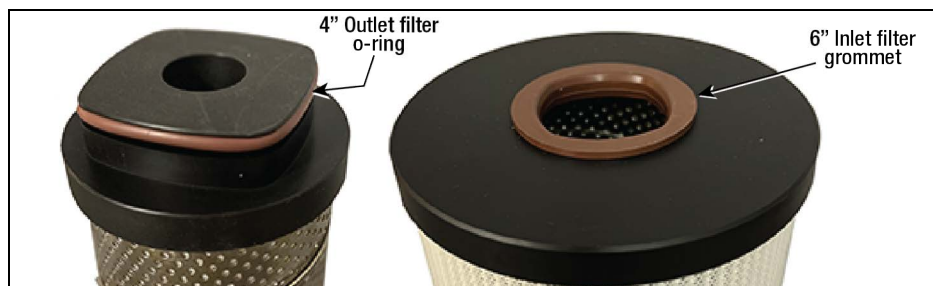
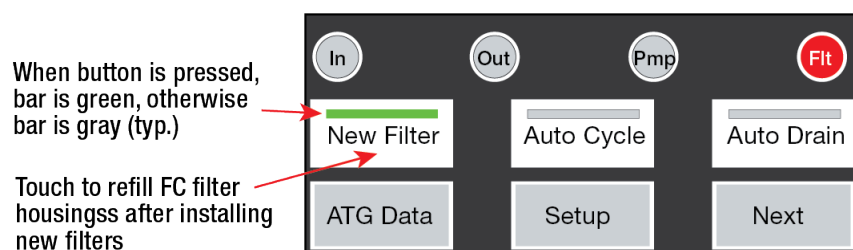

Figure 2.
Figure 10. FCC Service Home Screen
5. Get the two new filters and o-ring lubricant from the kit. Apply lubricant to both the brown grommet on the bottom of the 6" Inlet filter and the brown o-ring in the bottom of the 4" Outlet filter (see Figure 2).
1. At the Fuel Conditioning Controller Display Home screen, touch the Service button (Figure 2) to open the FCC Service Home screen (see Figure 10).